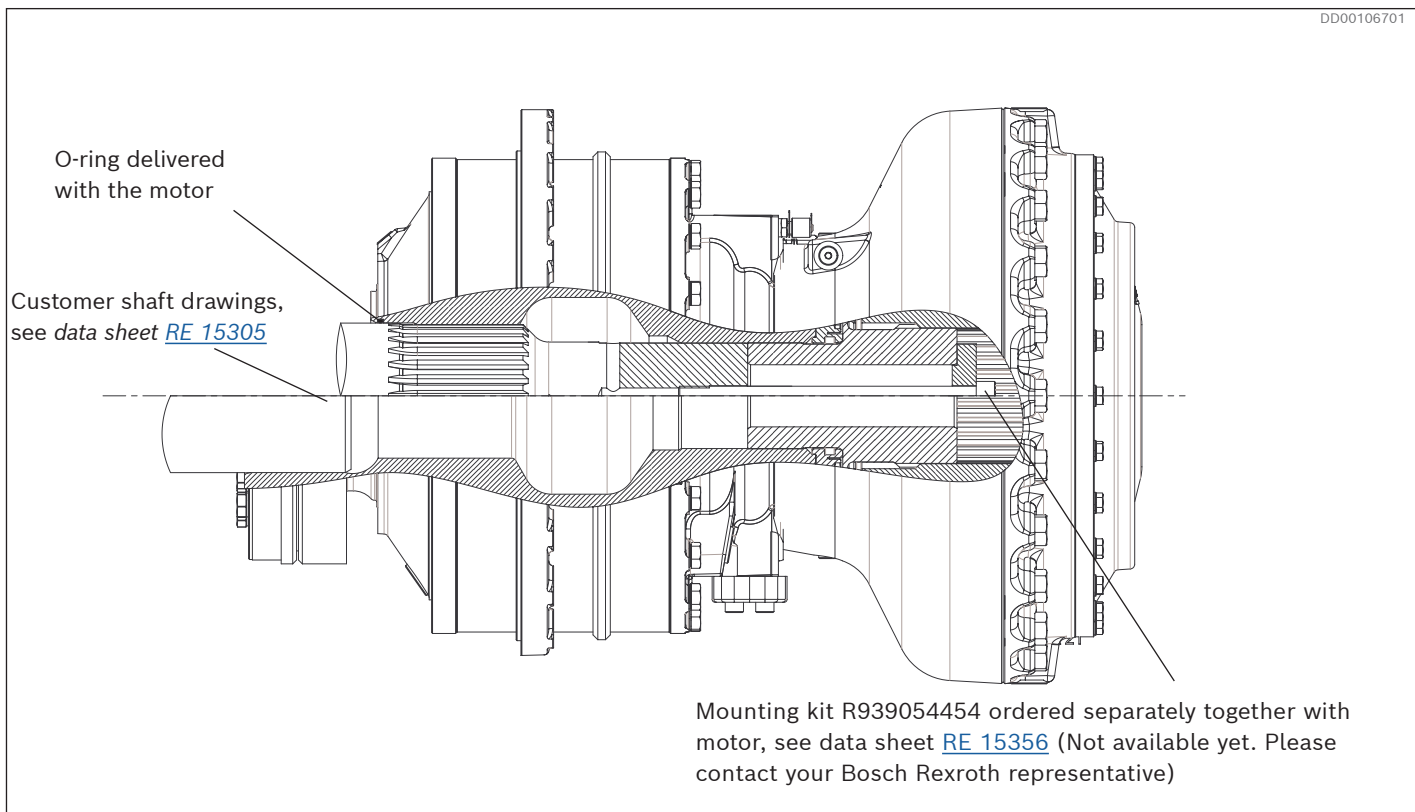

Fig. 19: Example CA motor with spline or shrink disc coupling and tandem mounted MDA 14 brake on customer shaft
- Mounting kit for CA motors with tandem mounted MDA 14. Use Screw MC6S M20x310. See Fig. 19